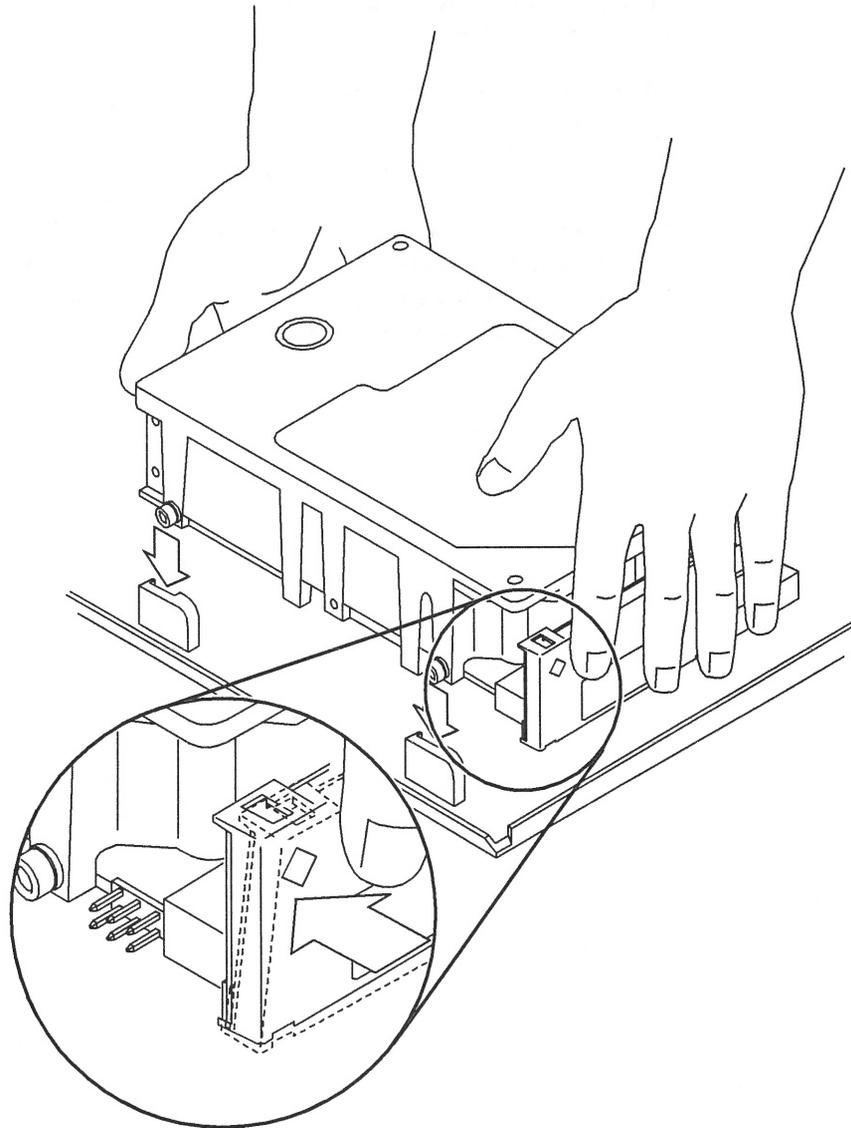

Figure 3-14 Verifying the correct position of the Connector
7. With one hand at the back of the drive and the other hand on the back of the connector, push them together to firmly seat the connector in an upright manner. Refer to Figure 3-14.
8. **Look and see that the connector is fully seated and is in a 90-degree, upright position. Refer to the inset of Figure 3-14.**